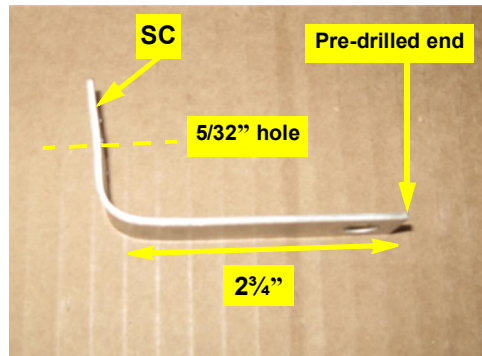

Figure 1b: Bent and drilled switch bracket
- b. Put a 90° bend in the switch bracket SC 2 3/4" from the pre-drilled end then drill a 5/32" hole in the center of the short section (Figure 1b).